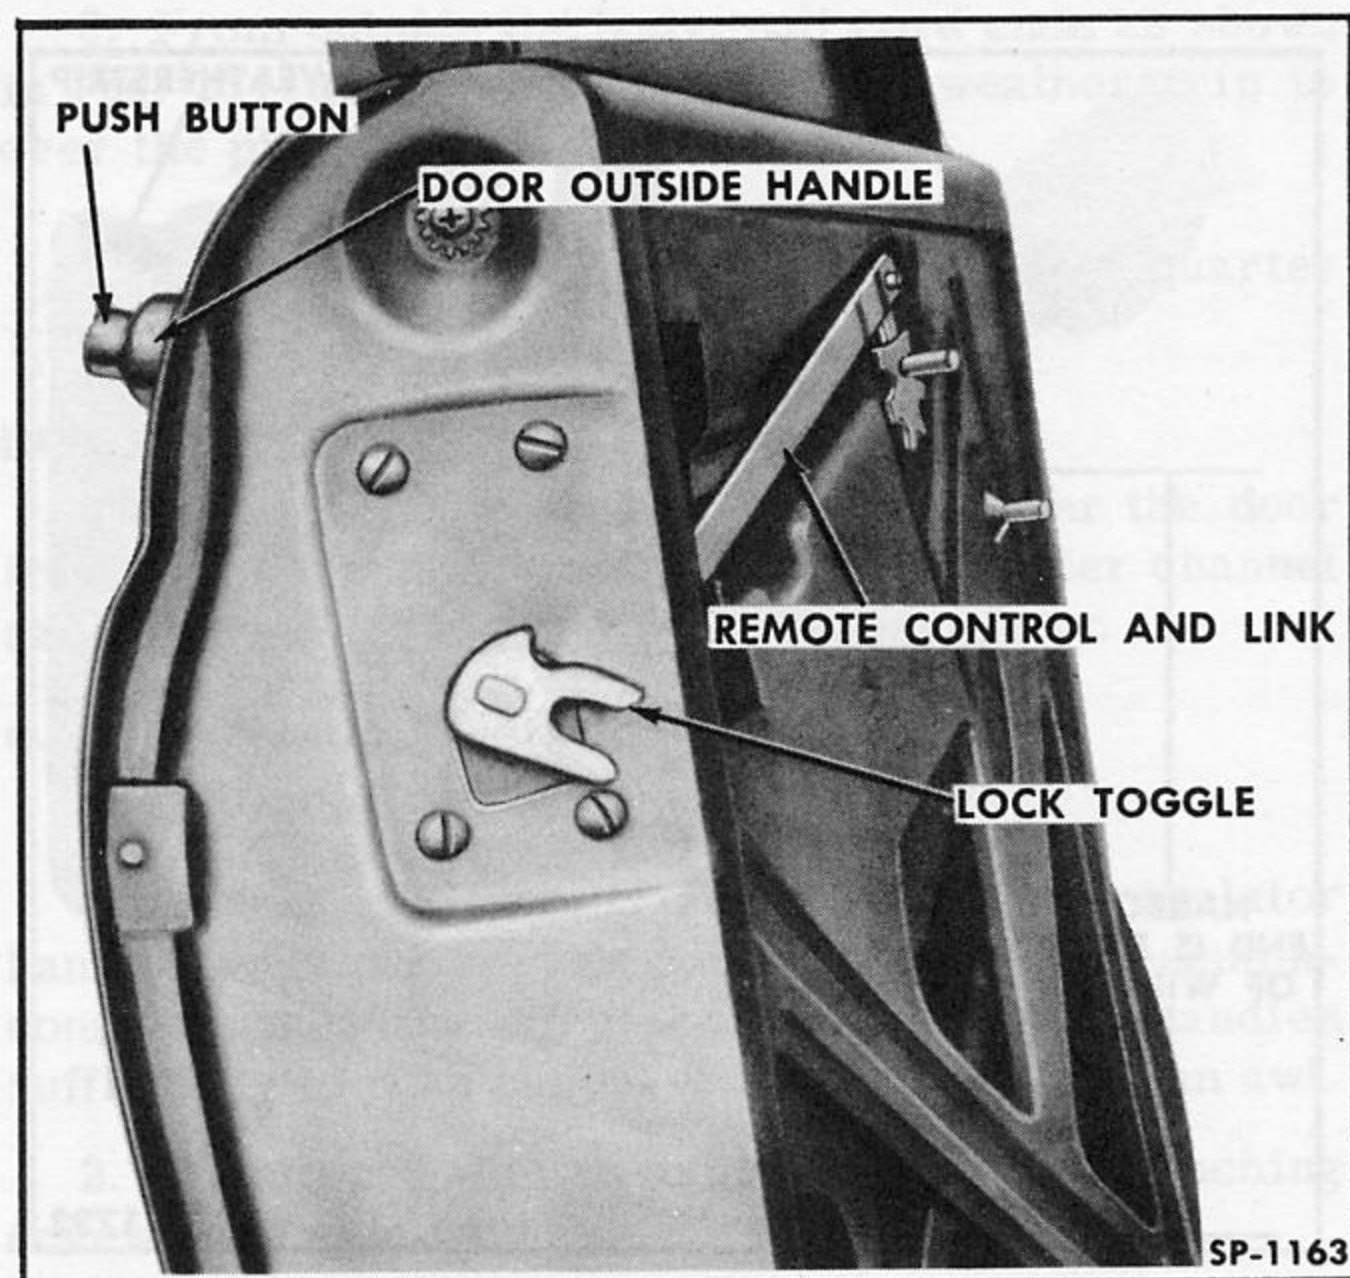

Fig. 234—Door Lock and Controls
The door lock is fastened to the inside surface of the door inner panel with the lock toggle extending through a cutout in the panel (Fig. 234). The door lock remote control is fastened to the inner panel and must be removed to disengage the remote control link from the lock before the lock can be removed. The outside handle does not have to be disturbed for any other re-
2. Remove four door lock to door inner panel screws (see Fig. 234).